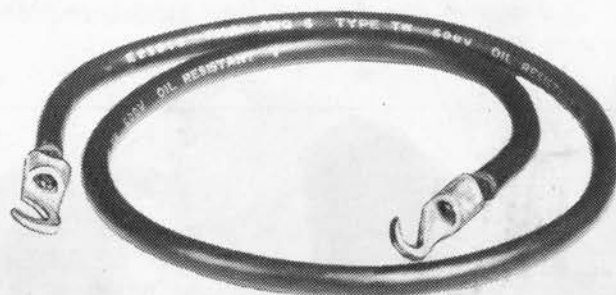

Figure 32
- 10.09 This long ground strap (26-1/2 inch), No. 6 AWG is used to connect the bottom 1/4-20 mounting screw of the lowest connector in a MDF to the MDF copper ground bar when the basic grounding method is used. (See figure 32.)